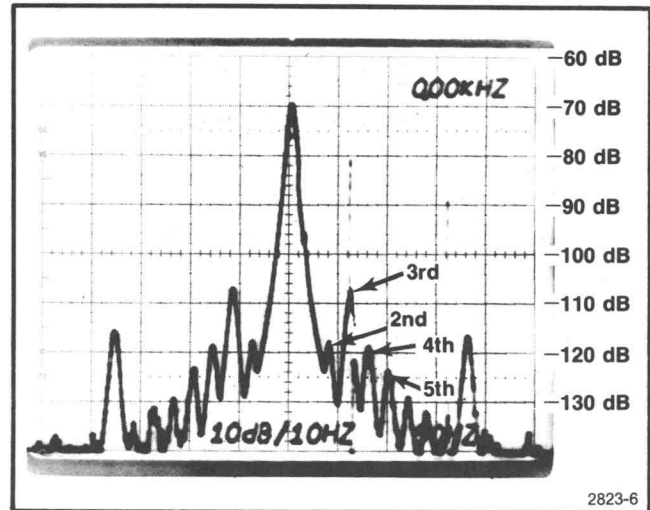

Fig. 4-5. 20 Hz harmonic distortion display.
l. CHECK—that the calculated THD is less than -102 dB (see Fig. 4-5 for harmonics at 20 Hz).